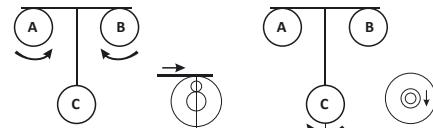

Figure 3
- b) Rotate the lifting screws A, B, C to install the bubble vial in the center. By rotating the A and B screws simultaneously, move the bubble to the right. Rotation of the screw C will move the bubble back (Figure 3).